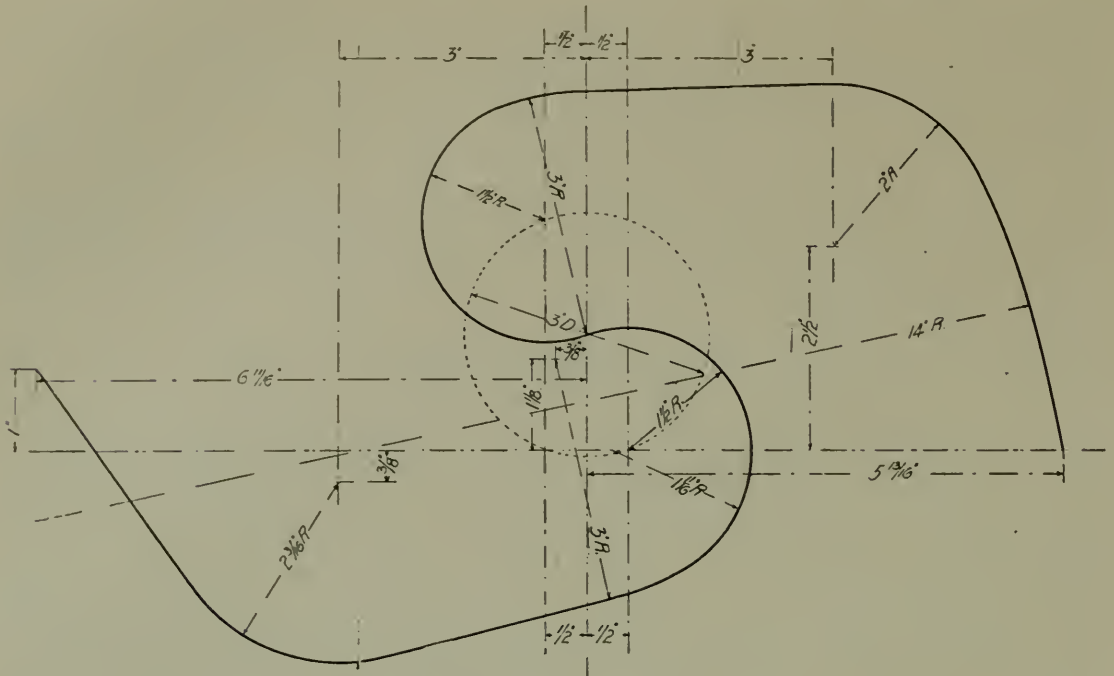

FIG. 1.—PROPOSED CONTOUR LINE.
(A) In regard to the length of the guard arm, it is recommended that the contour lines be extended about one inch beyond the point where they at present terminate, and that the M. C. B. standard limit gauges for new couplers have the guard arm screw moved from its present position to a new one at the end of the proposed new contour lines. [See Figs. 1 and 2.]